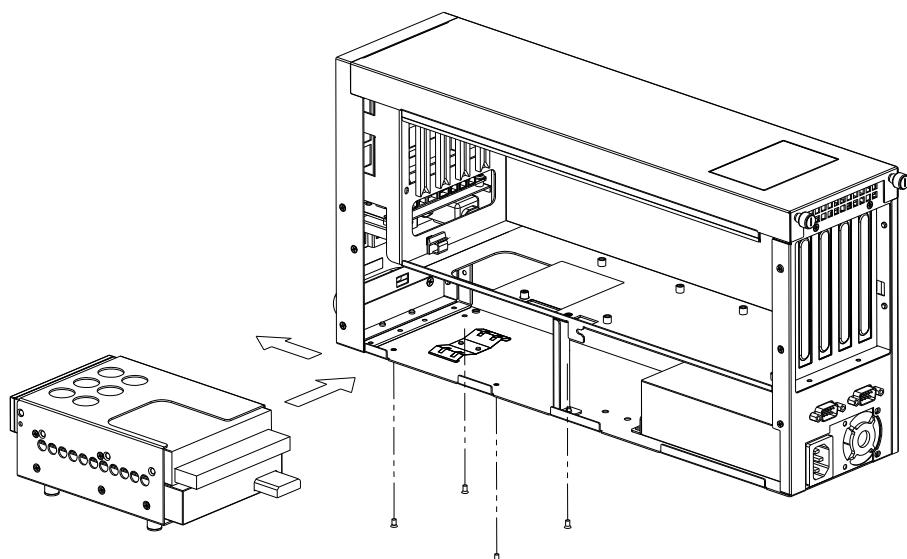

Figure 2.9 Installing 3.5" FDD or HDD disk drive/安裝3.5" FDD或HDD/安裝3.5" FDD 或 HDD
3. Return the disk drive bracket with the disk drive in the original position and fasten it with the screws (Figure 2.9).
3. 然后将已安装驱动器的托架放回原处并用螺丝进行固定，如图 2.9 所示。